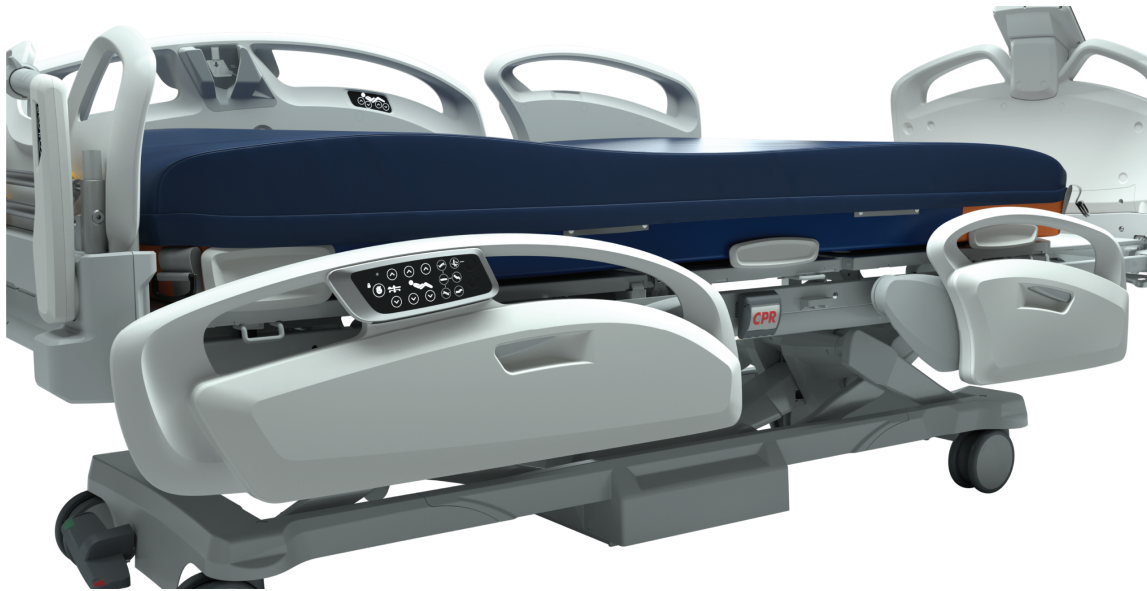

Figure 14 – Siderail lowest position
- To lower the siderail to its lowest position, press and hold the siderail release and rotate the siderail to the lowest position (Figure 14).